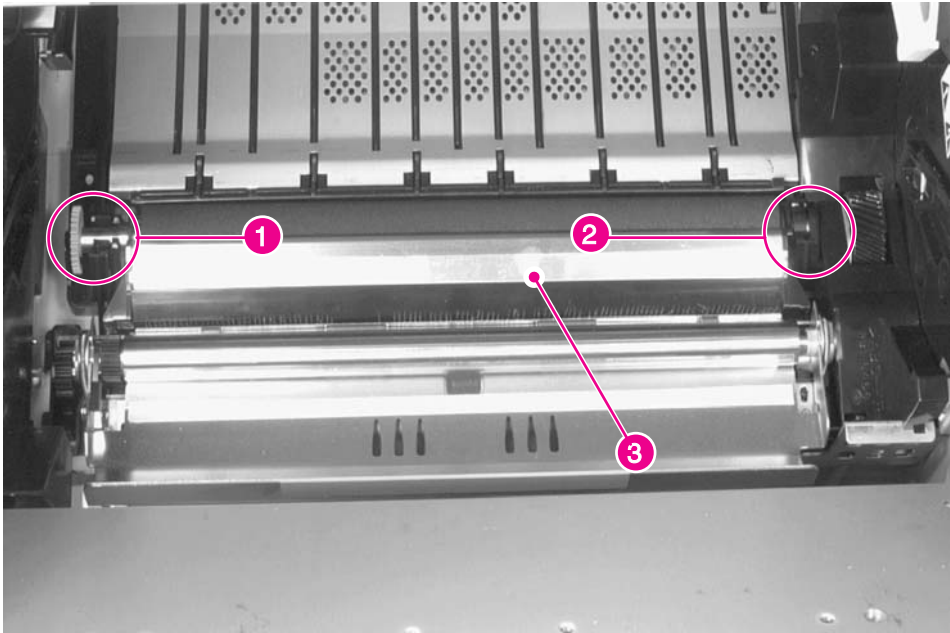

Figure 6-60 **Transfer Roller Assembly**
- 2** Remove the Transfer Roller Assembly (see figure 6-60 on page 228).
- Transfer Roller (see figure 6-60 on page 228)
- 2 Grasp the gear (figure 6-60, callout 1) on the left end, and carefully lift upward just enough to clear the retainer clip.
- 3 Slide the Transfer Roller Assembly to the left to release the shaft on the right end (figure 6-60, callout 2).
- 2** Hold the Transfer Roller wiper up (figure 6-60, callout 3) and slide the assembly to the right until the gear on the left end is in position.
- 4** Press the Transfer Roller wiper down (figure 6-60, callout 3) until the retaining clips snap into place.